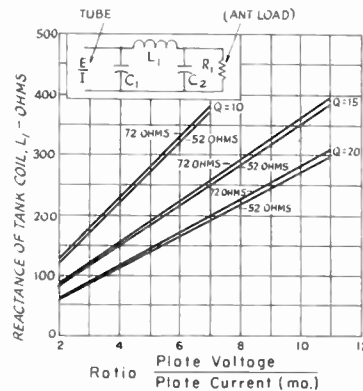

Fig. 6-14—Reactance of tank coil, L_1 , as a function of plate voltage and current, for pi networks.
- L_1 —See text or Fig. 6-14 for reactance.